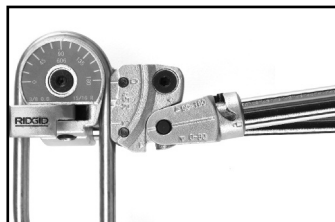

Figure 15
- Swing the Carriage Handle around the Form until the "0" Line on the Carriage aligns with the desired bend angle (Figure 15). The Handles will not cross.